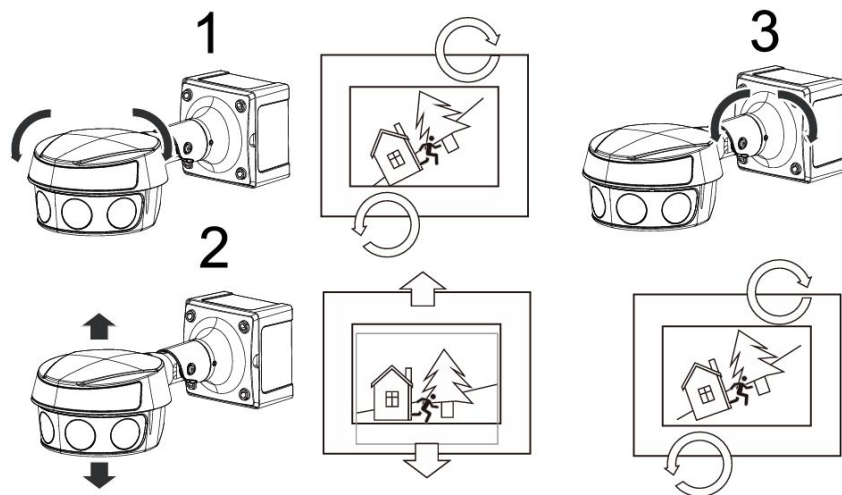

Figure 1-5
Step 5 Adjust camera viewing angle, then tighten set screws to lock position See Figure 1-5.